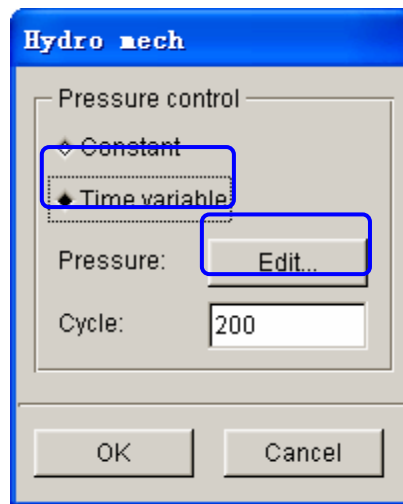

Figure 7.46 Hydro mech dialog box
- Select **Time variable** option as pressure control in HYDRO MECH dialog box illustrated in Figure 7.46.